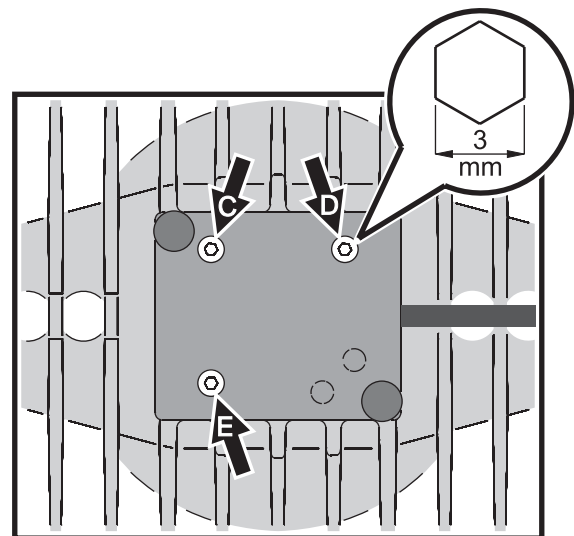

Figure 3: Lamp adjustment screws
- See Figure 3. Screw the 3 mm Allen screws **C**, **D** and **E** in or out to obtain the most even beam.